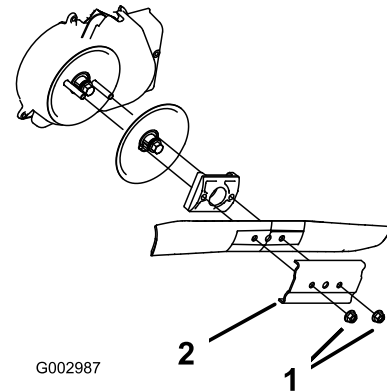

Figure 52
- Remove the 2 blade nuts and the stiffener (Figure 52).
- Remove the blade (Figure 52).
- Install the new blade (Figure 52).